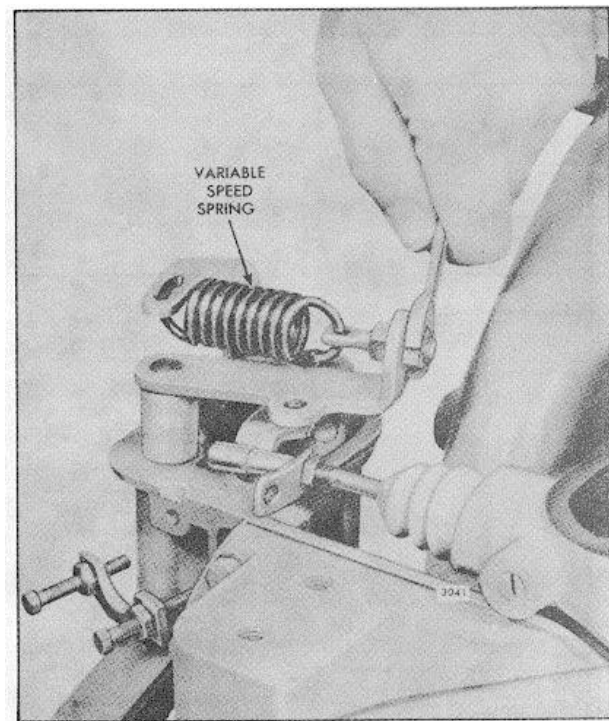

Fig. 2. Adjusting Governor Spring Eye Bolt
1. Adjust the variable speed spring eye bolt until 1/8" of the threads project from the outer lock nut (Fig. 2).